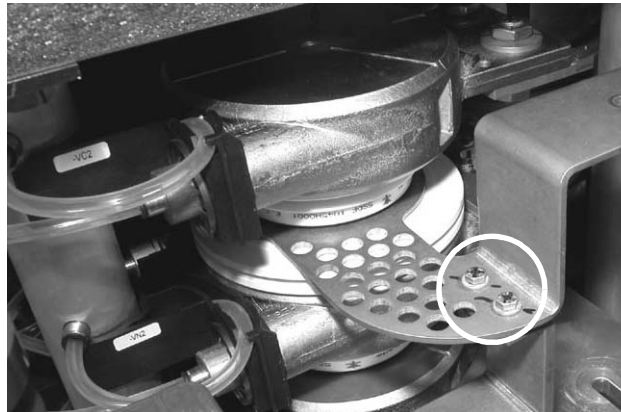

Figure 8-9 Removing Fastening Bolts of Perforated Busbar
- 7 Remove the fastening bolts of the upper perforated busbar (see circle in Figure 8-9).